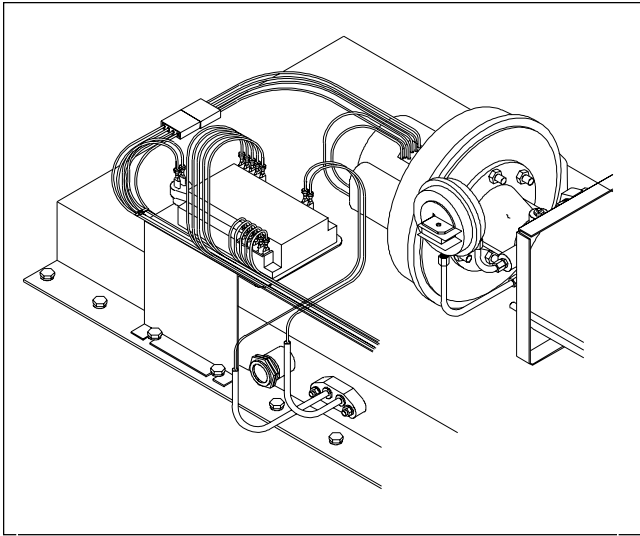

Figure 14. Removing the 4-Wire Fan Connector
6. Separate the four-wire connector located near the combustion air fan (see Fig. 14).